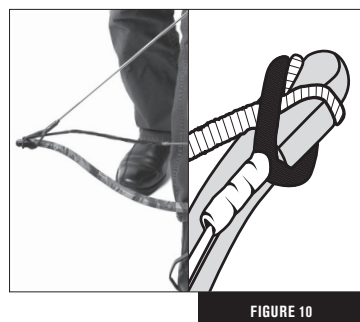

FIGURE 10
5. Attach the crossbow string loop over each limb tip by inserting through (under) the stringer loop. BE SURE that the crossbow stringer is fully looped over both sides of the plastic tip as shown in Fig. 10.